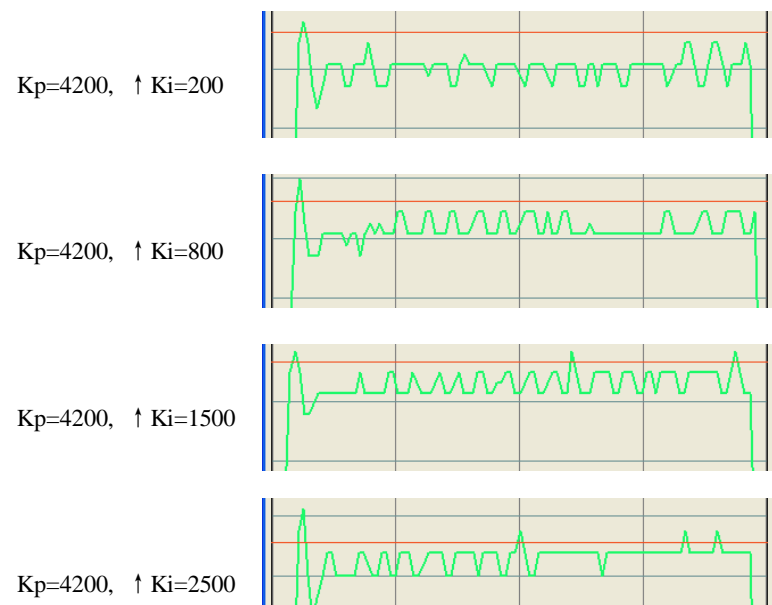

Figure 6-24: Current loop tuning with Kp=4200 and increasing Ki
**Step 4:** Now **Kp** is relative good enough. But there is still gap between the green curve and the red curve when we use the mouse to zoom in it as shown in figure 6-24. There is also big vibration, which will cause motor noise, on the green curve. So we need to introduce **Ki**, the integral gain to reduce the “gap” or steady error at the constant part. It follows the same procedure as **Kp**. Too high **Ki** will causes big vibration, system lag and makes the performance worse. See figure 6-24 for this procedure. Increase **Ki** until the gap can be accepted and not causes much vibration.